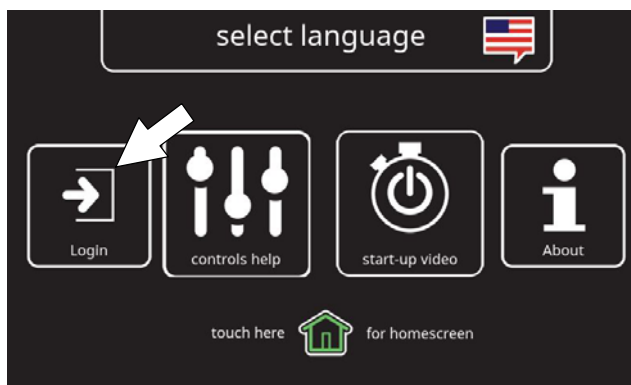

FIG. 157
2. Press the login button (Figure 157).